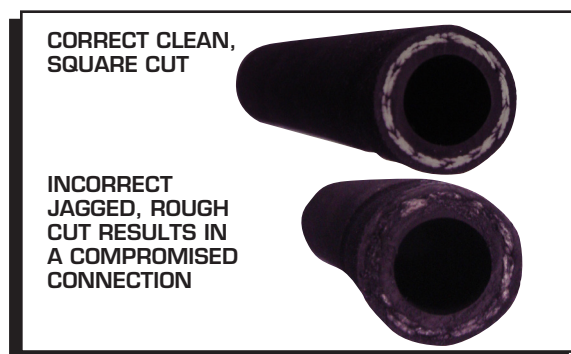

Figure 21 Severing the Hose Properly.
1. Determine the length of hose needed. Mark the hose and cut it using a hose cutter or new razor blade. There should be minimal disturbance of the outer jacket, braids and inner liner. The cut plane should be perpendicular to the hose axis. (Figure 21).